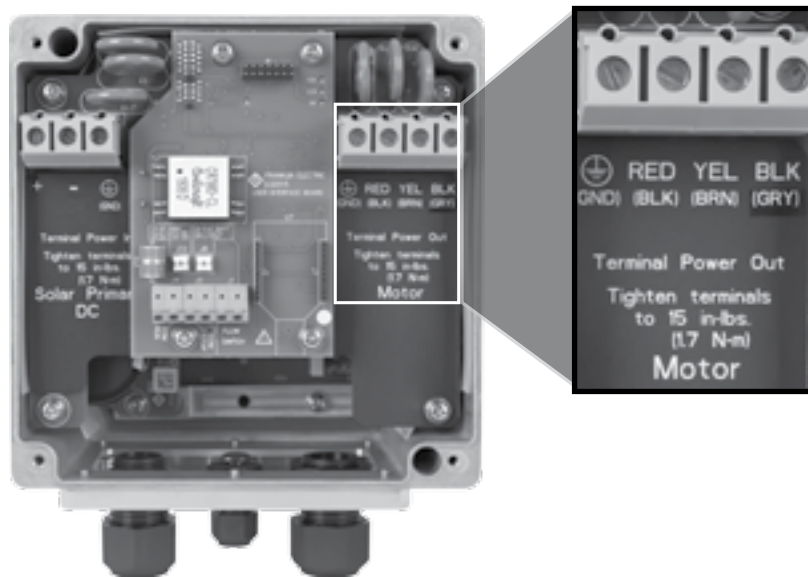

Figure 6: Motor Wiring Connection
1. Connect the cables from the Pump/Motor Assembly to the Terminal Block labeled “MOTOR” and marked BLK, GND, RED, and YEL, (Figure 6). (Torque specification: 15 in-lbs/ 1.7 N-m). (Use copper conductors only. Rated 75 °C minimum).